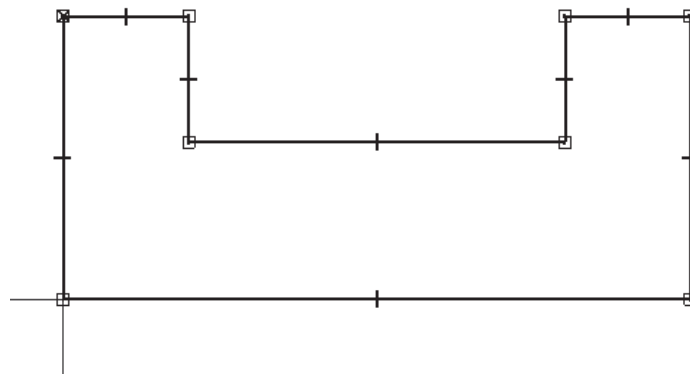

Figure 1-26 Sketch after drawing lines
15. Press the ESC key from the keyboard to exit the **Line** tool. The sketch after drawing the lines is shown in Figure 1-26.